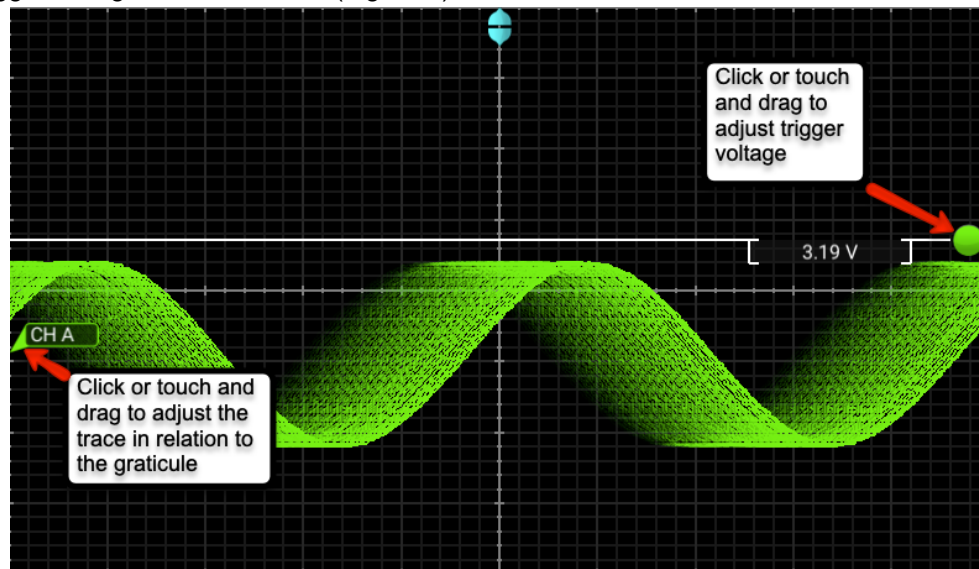

Figure 9: Adjusting the trace against the graticule and setting the triggering voltage.
4. Adjust Chanel A so that the trace is centered on the centerline of the graticule and adjust the trigger voltage bubble to 2.0 V (Figure 9).